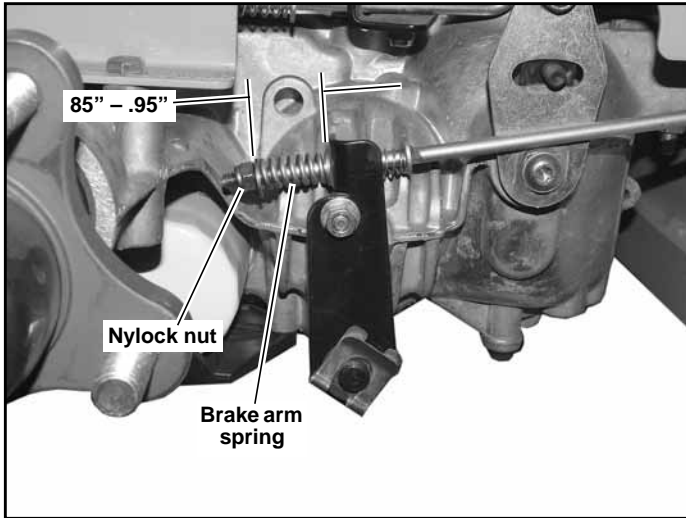

Figure 4-7
2. On one side measure the park brake spring. It should be compressed to .85" – .95". If it is not, adjust the nylock nut until the proper spring compression is achieved. Figure 4-7